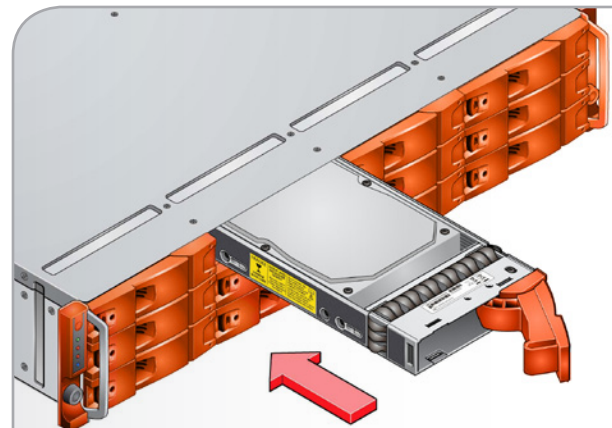

Fig. 99 - Inserting the Drive Carrier Module
3. Slide the drive carrier, gently, all the way into the enclosure until it is stopped by the camming lever on the right of the carrier (Fig. 99).